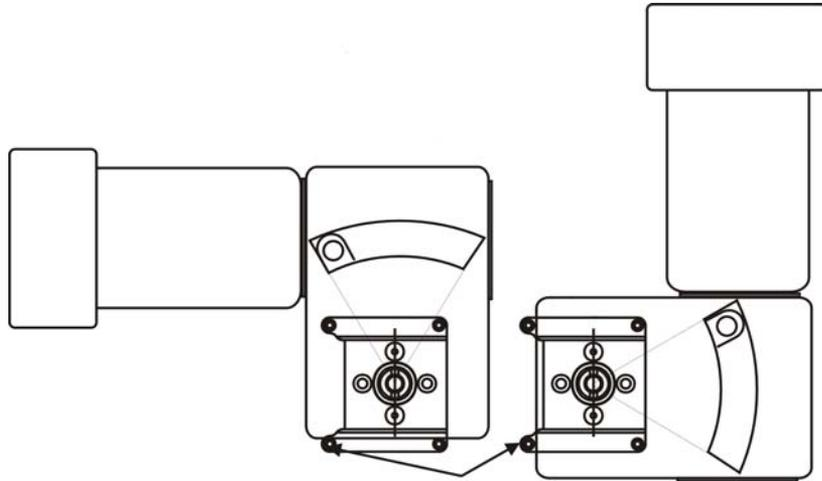
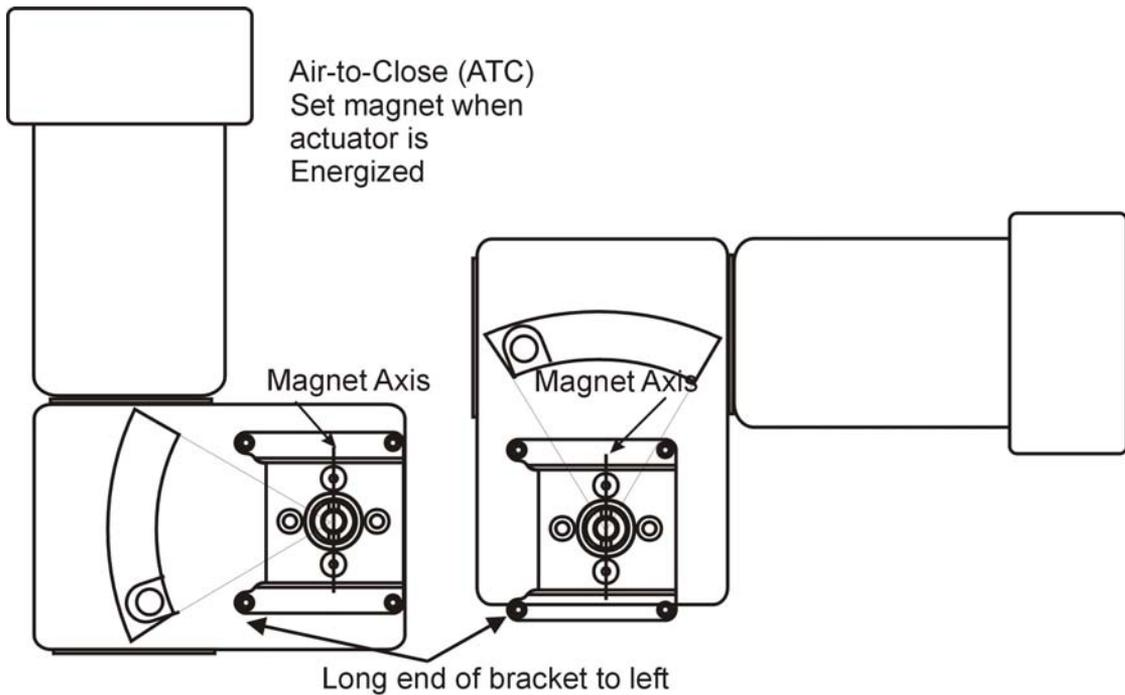

Figure 11 Camflex ATO Mounting (Front View)
Figure 12 Mounting Bracket on Air-to-Close Actuator
1. Attach the SVI II AP rotary mounting bracket to the valve actuator using two (2) 5/16 - 18 UNC flat-head cap screws. Mount the SVI II AP as shown in Figure 11 on page 41, ATO or in Figure 12 on page 41, ATC. In the preferred mounting position, the long end of the mounting bracket is on your left when facing the actuator, for any position of the valve and actuator.
6. Rotate the magnet holder so that the magnet axis is vertical when the valve is in the closed position. See Figure 11 and Figure 12.